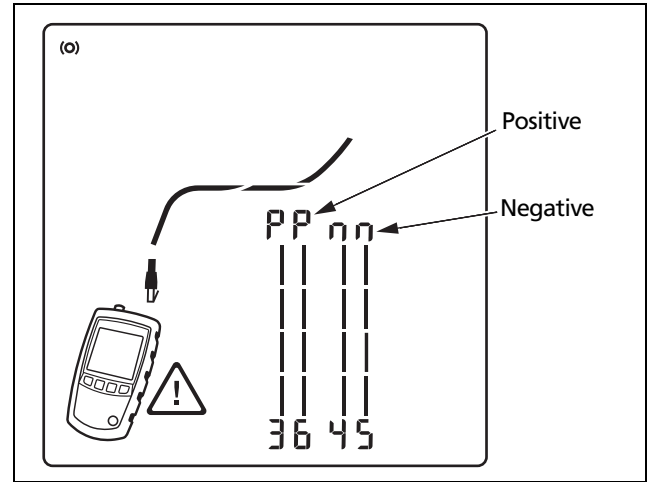

Figure 1. High Voltage Display Example
- The tester is not intended to be connected to active telephone inputs, systems, or equipment, including ISDN devices. Prolonged exposure to the voltages applied by these interfaces may damage the tester. The tester shows a warning symbol () and the voltage polarities when it detects high voltage. Figures 1 and 11 show examples of this display.